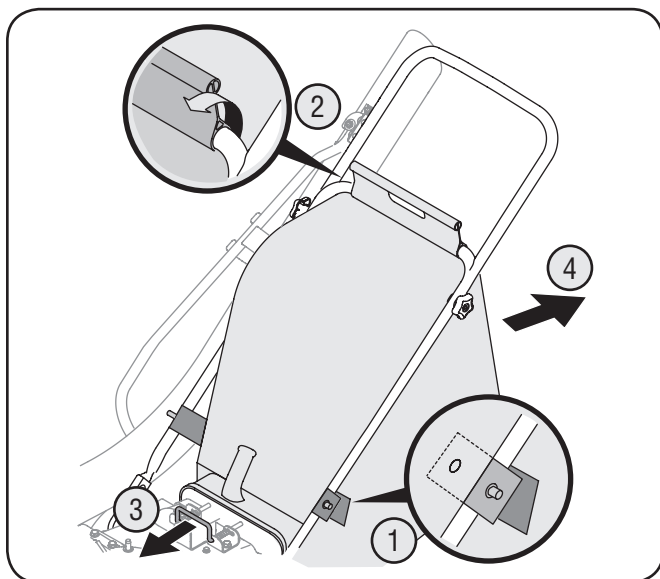

Figure 5-1
2. Unsnap bag clip from the top of lower handle. See Fig. 5-1.